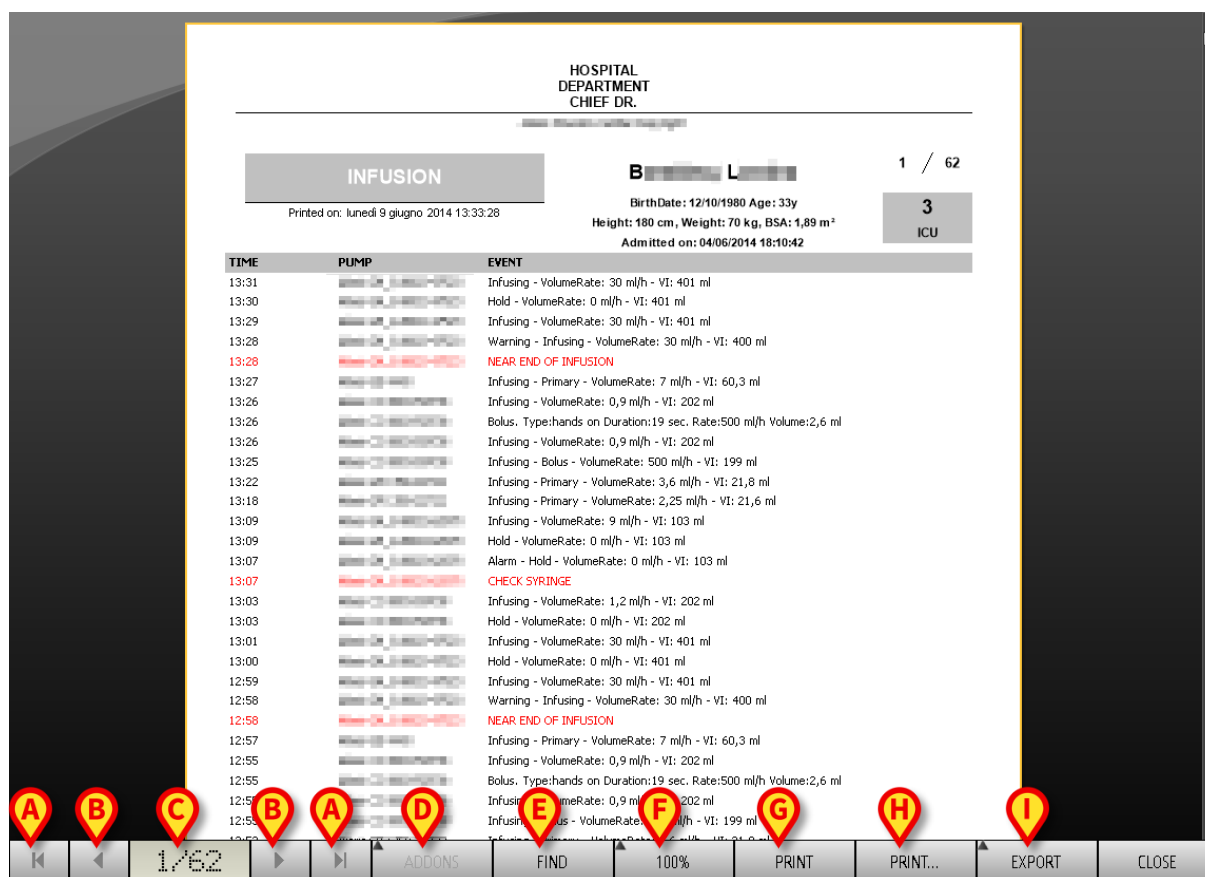
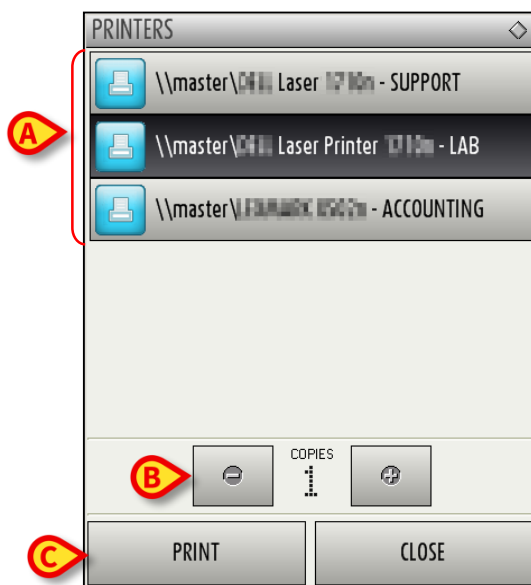

Fig 29
Fig 35
A print preview of the selected document opens (Fig 29).
A - Use the  and  buttons (Fig 29 **A**) to go to the beginning or the end of the document.
B - Use the  and  buttons (Fig 29 **B**) to go to the previous or the next page.
C - The display  (Fig 29 **C**) indicates the current page number.
D - The **Addons** button (Fig 29 **D**) activates the possible additional print management options (in this configuration the “Watermarks” option is available - see paragraph 6.8.2.1 for a description of this option).
E - The **Find** button (Fig 29 **E**) makes it possible to search the displayed document. See paragraph 6.8.2.2 for more instructions.
F - The button indicating the **100%** percentage (Fig 29 **F**) is a zoom, making it possible to change the display mode. See paragraph 6.8.2.3 for more instructions.
G - Use the **Print** button (Fig 29 **G**) to print the report.
H - Use the **Print...** button (Fig 29 **H**) to display the print options window (Fig 35). See paragraph 6.8.2.4 for a description of this window and the related procedures.
I - Use the **Export** button (Fig 29 **I**) to export the document contents to different file extensions. See paragraph 6.8.2.5 for more instructions.
The **Addons** button (Fig 29 **D**) activates the possible additional print management options.
The **Find** button (Fig 29 **E**) makes it possible to search the print report currently displayed.
The **Zoom** button (on which, by default, the **100%** size is displayed - Fig 29 F) is a zoom, making it possible to change the display size and mode.
- Click the **Print...** button (Fig 29 H) to display the print options window (Fig 35)
- Click the wanted option on the menu to select the printer (Fig 35 A).
- Use the  (one less copy) and the  (one more copy) buttons to specify the number of copies (Fig 35 B).
- Click the **Print** button (Fig 35 C) to print the report.
The **Export** button (Fig 29 I) makes it possible to export the contents of the displayed document to different file extensions. To do that